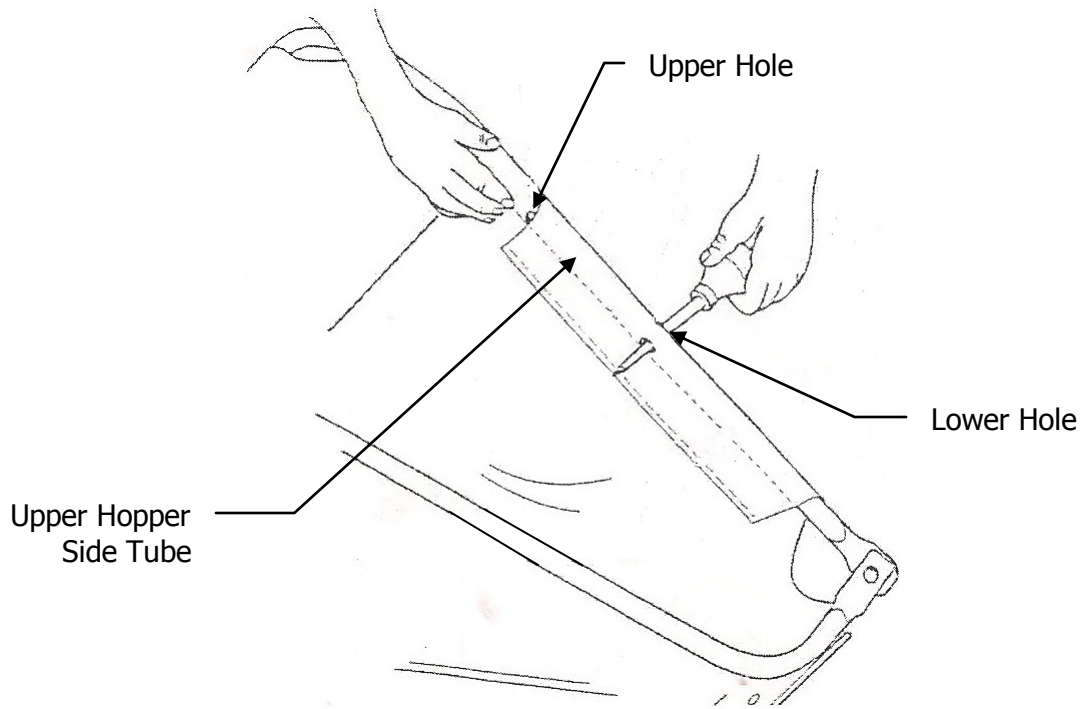

Figure 17
17. Feel along the stitched flap on the Hopper Bag to locate the lower hole in each Upper Hopper Side Tube. Place a hole through both sides of the stitched flaps in alignment with the lower hole. See Figure 17.